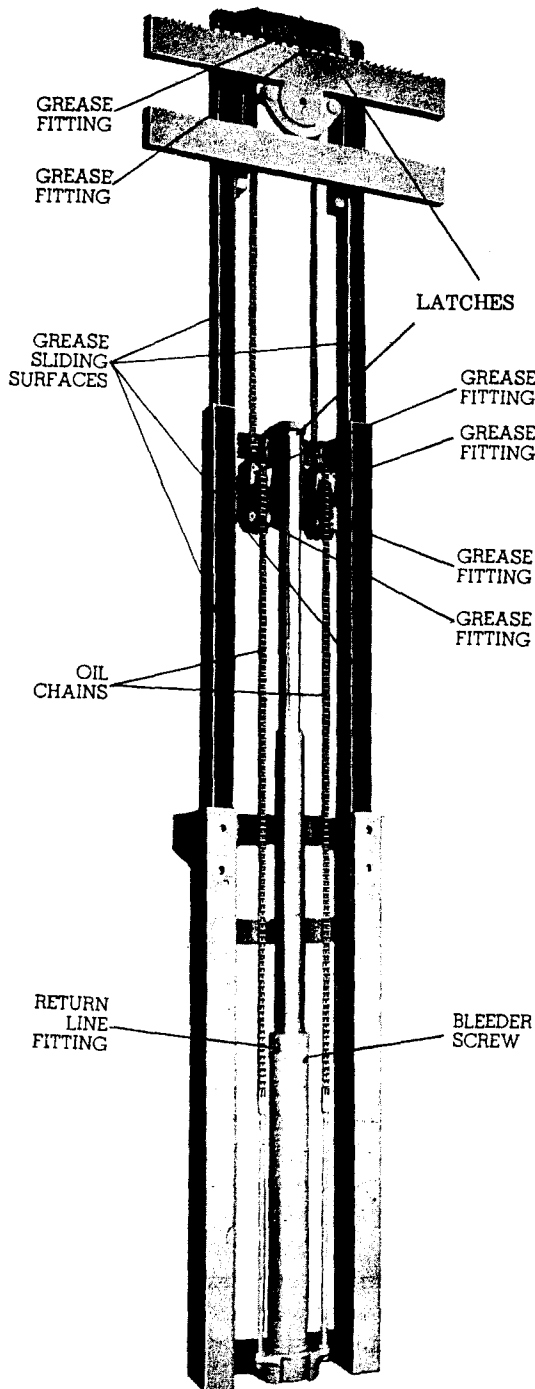

FIG. 1
6. Install the oil return line leading from the top side of the hoist cylinder to the truck sump tank. A compression type tube fitting is provided on the mast cylinder for this purpose. Position line so that it will not interfere with moving parts of the mast. For fitting location, see Fig. 1.
8. Loosen bleeder cap screw located near the top of the cylinder outer shell (see Fig. 1) and slowly operate lift truck control valve in the "Raise" position. Allow air to escape until a clear flow of oil is obtained. Tighten bleeder cap screw and check for leakage.